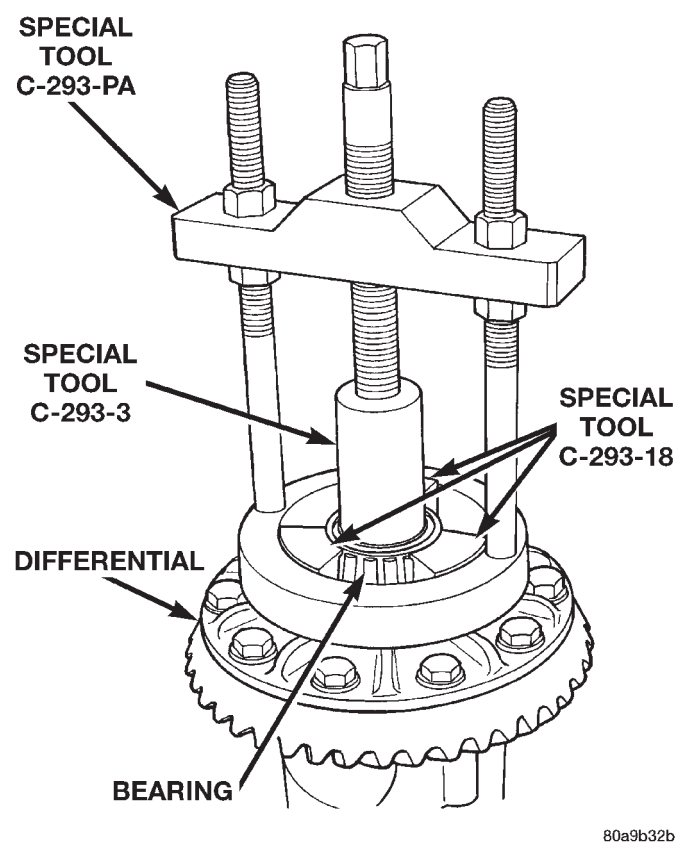

Fig. 23 Differential Bearing Removal
(1) Remove differential case from axle housing.
(2) Remove the bearings from the differential case with Puller/Press C-293-PA, Adapters C-293-18, and Adapter C-293-3 (Fig. 23).
(3) Remove differential preload shims from differential case hubs. Tag the shims to identify which side of the differential they came from.